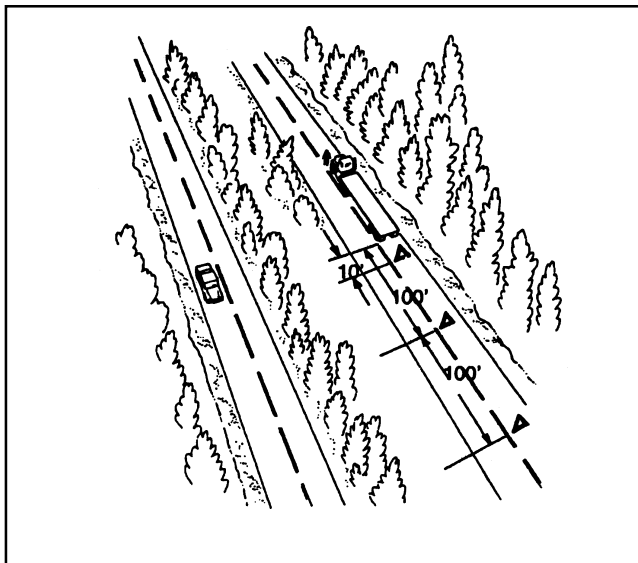

Figure 2-10
- ✓ If you must stop on or by a one-way or divided highway, place warning devices 10 feet, 100 feet, and 200 feet toward the approaching traffic. (See Figure 2-10.)